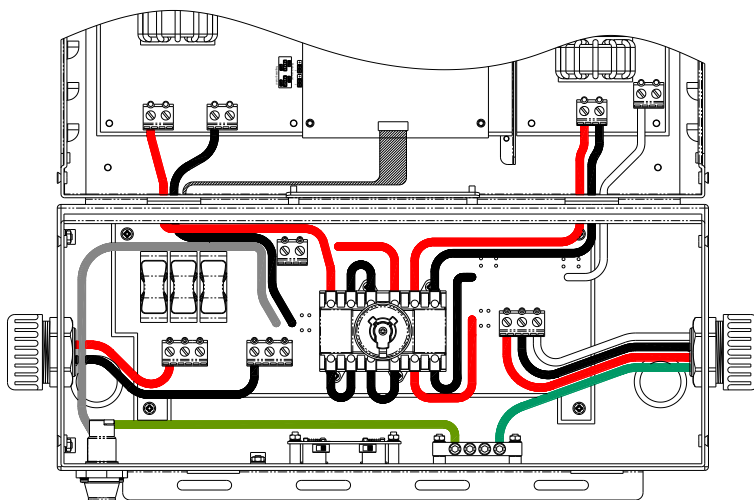

Fig 2.3.2.1 PVMate 2900U supports only three (3) PV string fuses
The wiring box of the PVMate inverter is designed to have a pair of the DC terminal blocks which support up to four (4) independent PV strings to be connected in parallel in the wiring box and then feed into the inverter. The PVMate inverter other than PVMate 2900U is shipped with up to four (4) 15A, 600 VDC PV string fuses for the PV strings. For the PVMate 2900U, it is shipped with three (3) 15A, 600 VDC PV string fuses, and therefore, the fourth pair of terminals (from left as shown in figure 2.3.2.1) shall not be used to connect to the PV string. Please refer to the section 5.4.2 for the replacement of the PV string fuses.